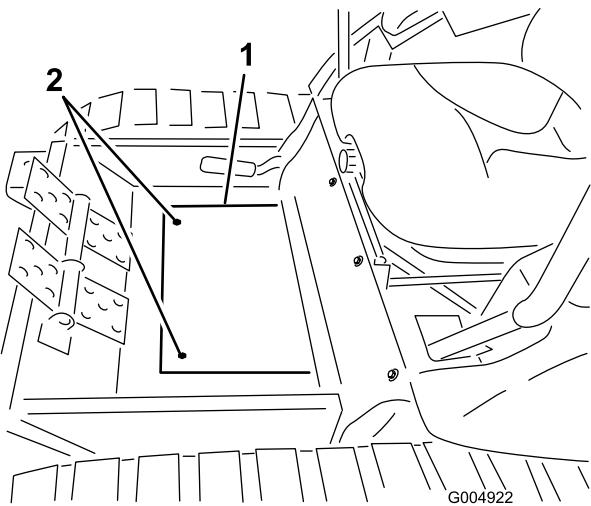

Figure 127
43. Install the winter frame floor plate cover to the floor with the screws previously removed (Figure 127).